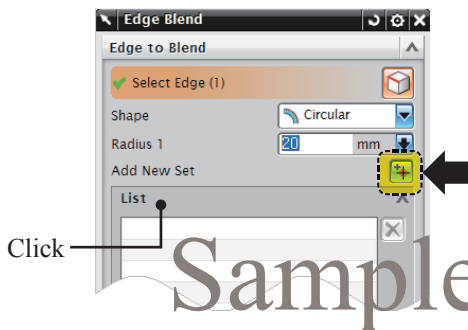

Fig 6-16 Add New Set Option
6. Expand the **List** area of the dialog box by clicking the title as shown in Fig 6-16.
7. Click the **Add New Set** icon as specified by the arrow in Fig 6-16. The edge blend is defined in the **List** area.